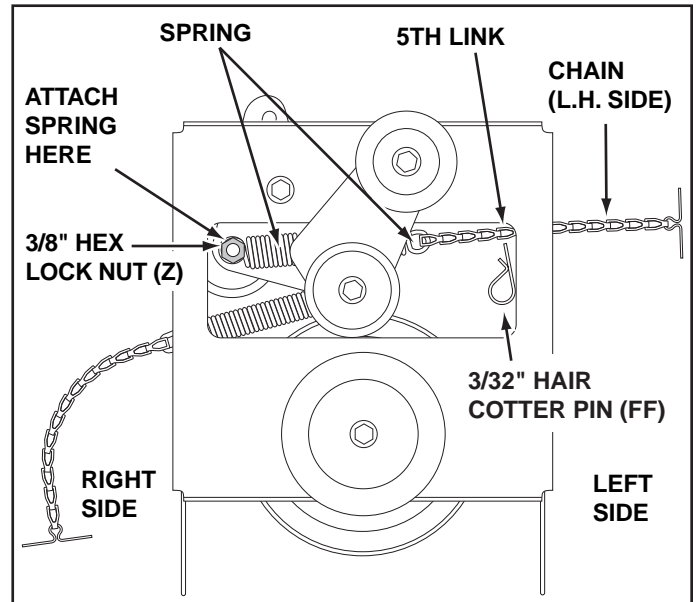

FIGURE 43
STEP 43: (SEE FIGURE 43)
- Hook the other end of the spring onto the bottom of the bolt and nut which secure the idler pulley to the upper idler arm. Hold the bolt head and assemble a 3/8" hex lock nut (Z) onto the bolt, leaving enough space for the spring to pivot freely between the two nuts.
- Attach a 3/32" hairpin cotter (FF) to the chain, placing it in the fifth link from the spring.